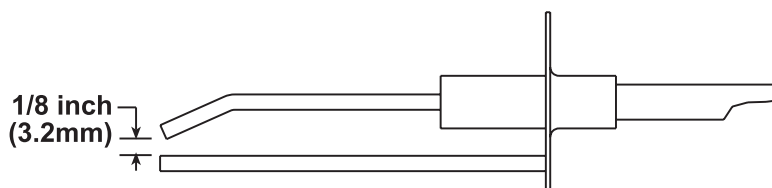

Figure 16. Ignitor Spark Gap
- The spark gap (see Figure 16) must be maintained to 1/8 inch.